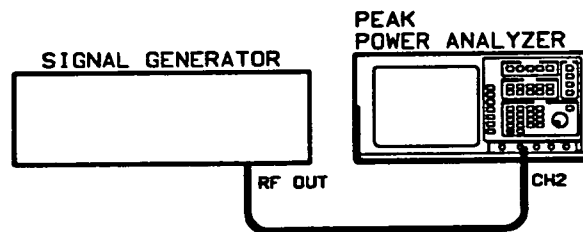

Figure 1-10. Checking Delta-t Accuracy Equipment Setup
1. Connect the equipment as shown in Figure 1-10.